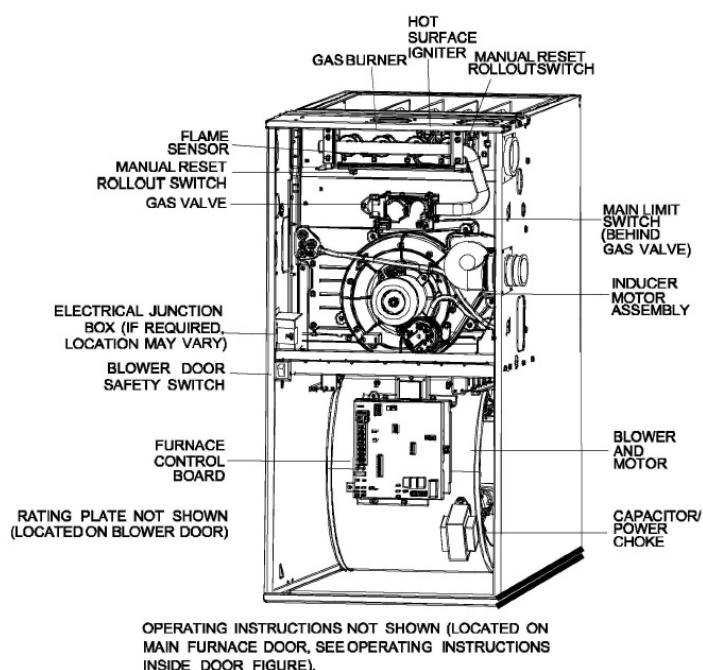

Fig. 1 – Representative Furnace Drawing
1. Disconnect the gas pipe from gas valve and remove pipe from the furnace casing (Fig. 1).